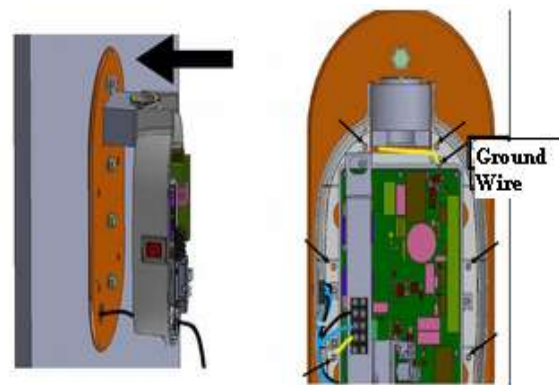

Figure 9
- Fix the base unit to the base plate with 6no's of M3x10 socket head screws and M3 plain washers using 2.5mm Allen key as shown in Figure 9 .
- Fix the ground wire coming from Bearing block to the ground location with M3x6 HSHC screw and M3 plain washer using 2.5mm allen key as shown in Figure 9 Reconfirm the level of the base plate.